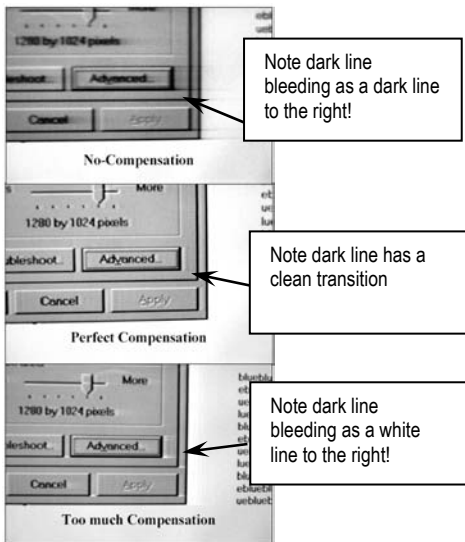

Figure 3
E. Apply a video source to the system and check for an image at each receiver, then set the compensation Potentiometer (pot) for best possible image. Start with the compensation pot fully CCW (least compensation), then slowly turn it clockwise and check for the bleeding of left to right horizontal lines on the screen. See Figure 3.